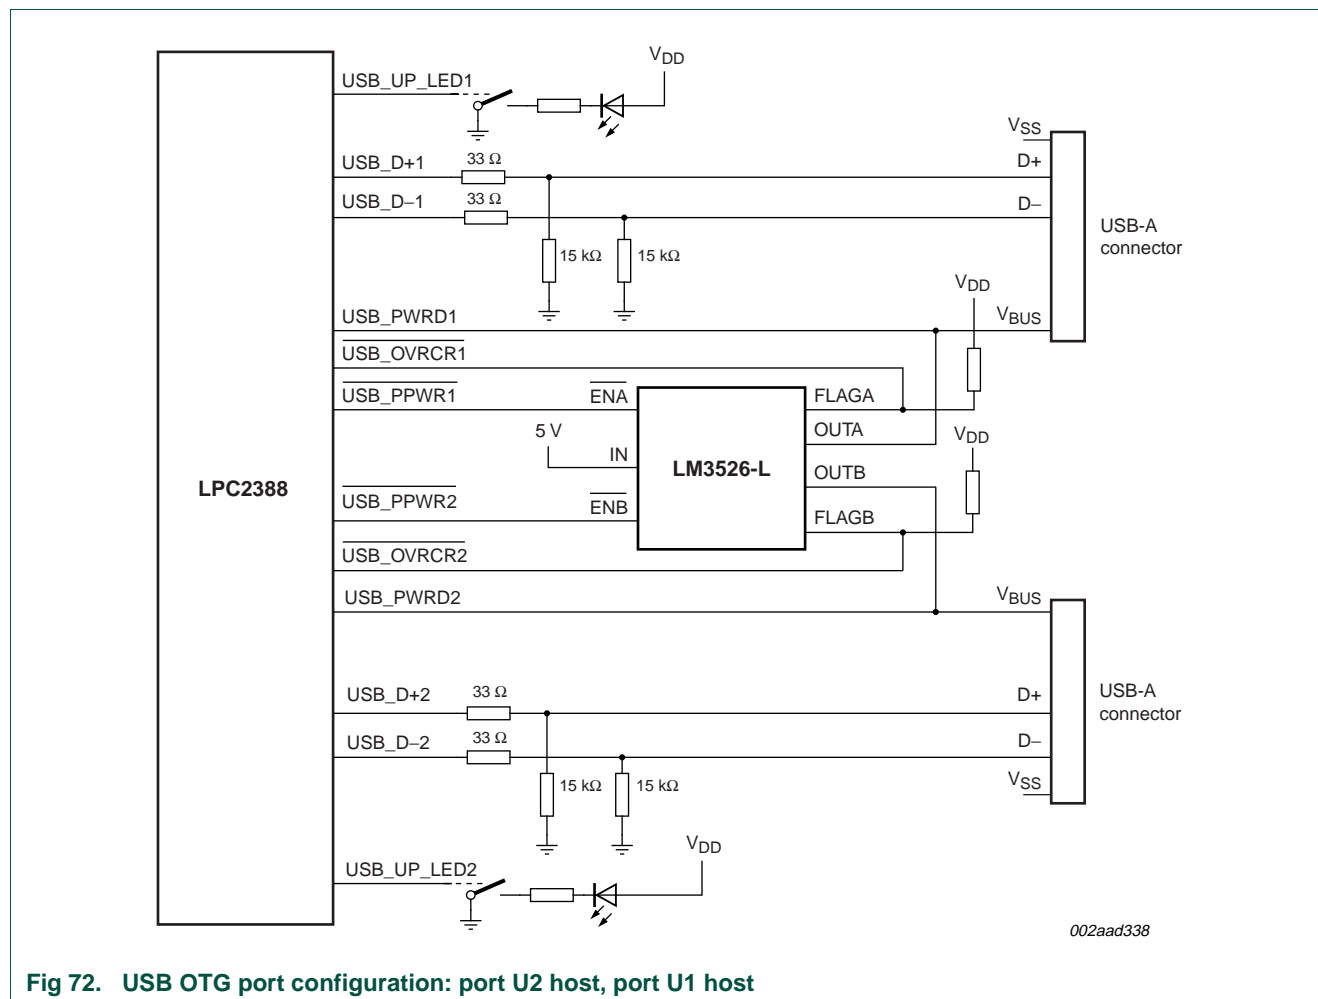

Fig 72. USB OTG port configuration: port U2 host, port U1 host
- One port host and one port device (see Figure 72)